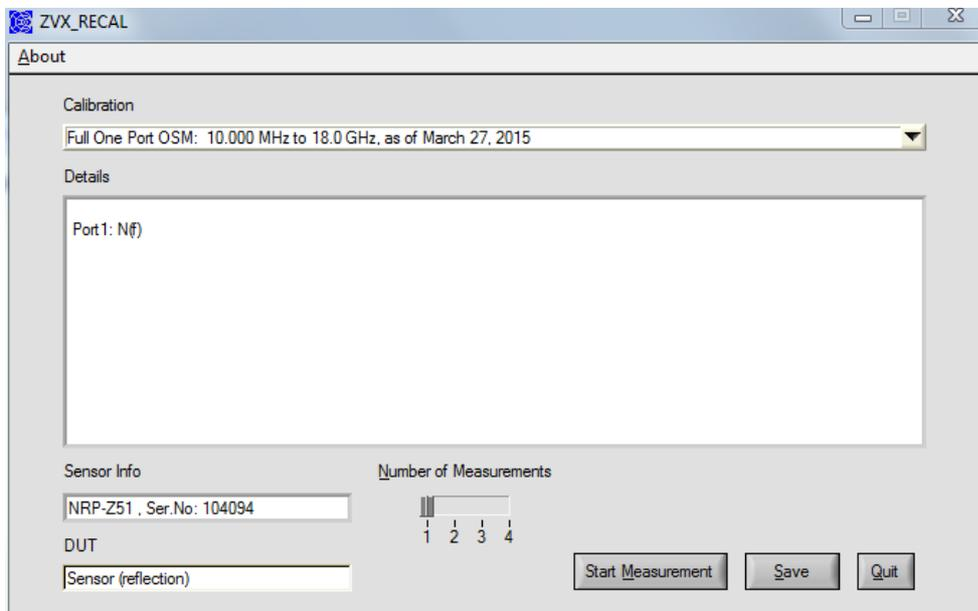

Fig. 6-6 User interface for calibrated network analyzer
- Confirm the **Calibration complete** message with **OK**. The **R&S®ZVX\_RECAL** user interface will reappear in the foreground (Fig. 6-6)